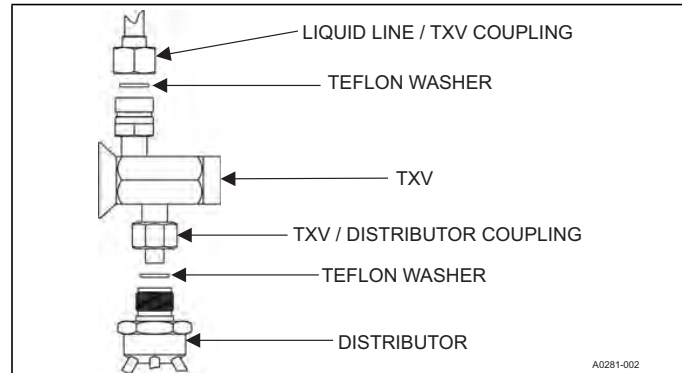

FIGURE 16: TXV Installation
4. Install the thermal expansion valve to the distributor assembly with supplied fittings. Ensure Teflon washer is seated in distributor. Hand tighten and turn an additional 1/4 turn to seal. Do not over-tighten fittings. See Figure 16.